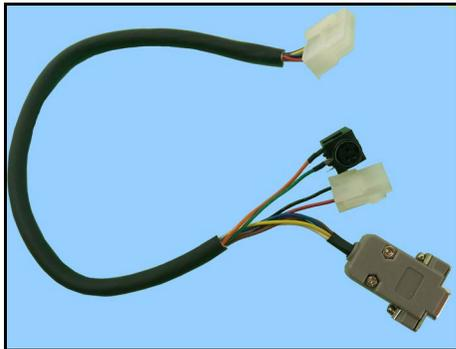

Figure 1 JCM® GEN Printer Evaluation Harness (P/N 150-00013-100)
**Usage:** The JCM GEN Printer Evaluation Harness (Figure 1) is a Universal Harness used to connect a 24 Volt Power Supply (P/N 350-00258-100) to a GEN2™, GEN2U™ or GEN5® Printer that uses a standard 14-pin printer connector output on the printer's Coil Cable. The Evaluation Harness provides power and connection for testing of the Printer.